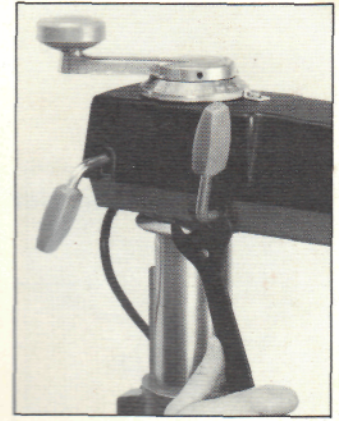

Fig. 11
- (iii) Release the mitre latch and depending on which way the arm needs to move to give the true 90° crosscut required, loosen and tighten the adjusting flanges on either side of the arm (Fig. 11) if the front of the arm needs to go to the left, loosen the adjusting flange on the right of the arm and tighten the flange on the left. If the opposite is the case, and the arm needs to move to the right, loosen the adjusting flange on the left and tighten the flange on the right. Adjust the flanges a little at a time and re-engage the mitre latch and clamp and check the crosscut travel of the blade relative to the fence with a square. Do not overtighten the adjusting flanges or the mitre latch will be too stiff to operate easily.